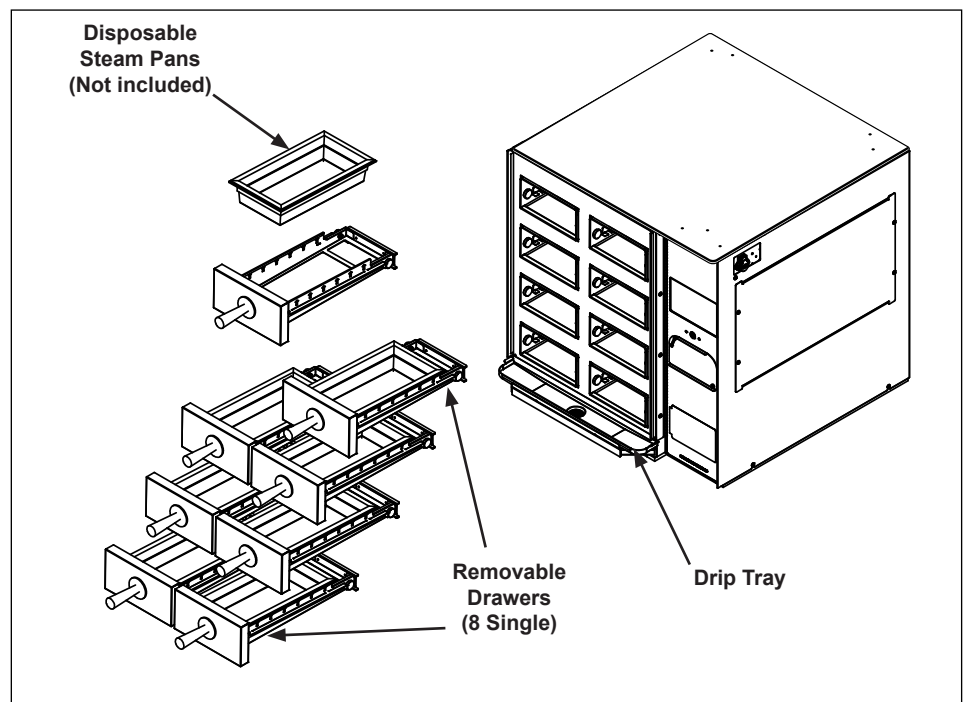

Figure 2. Steamer Components
5. Install components onto steamer as shown in Figure 2.